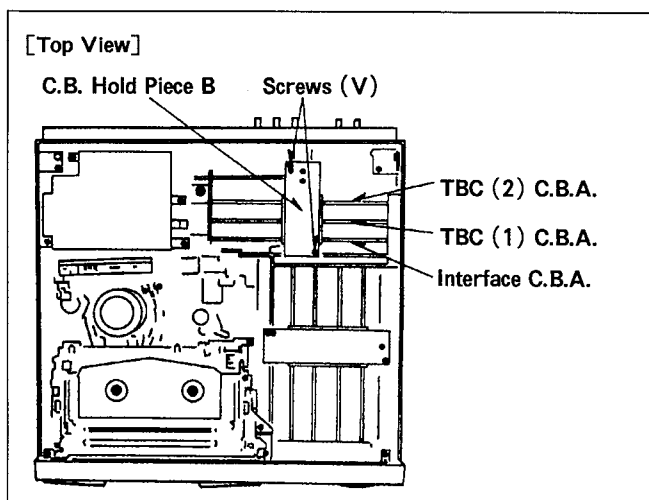

Figure D27
1. Unscrew the 2 screws (V) and remove the C.B. Hold Piece B. (Figure D27)
2. Carefully pull out the Interface C.B.A., TBC (1) C.B.A. and TBC (2) C.B.A. from Mother C.B.A. (Figure D27)